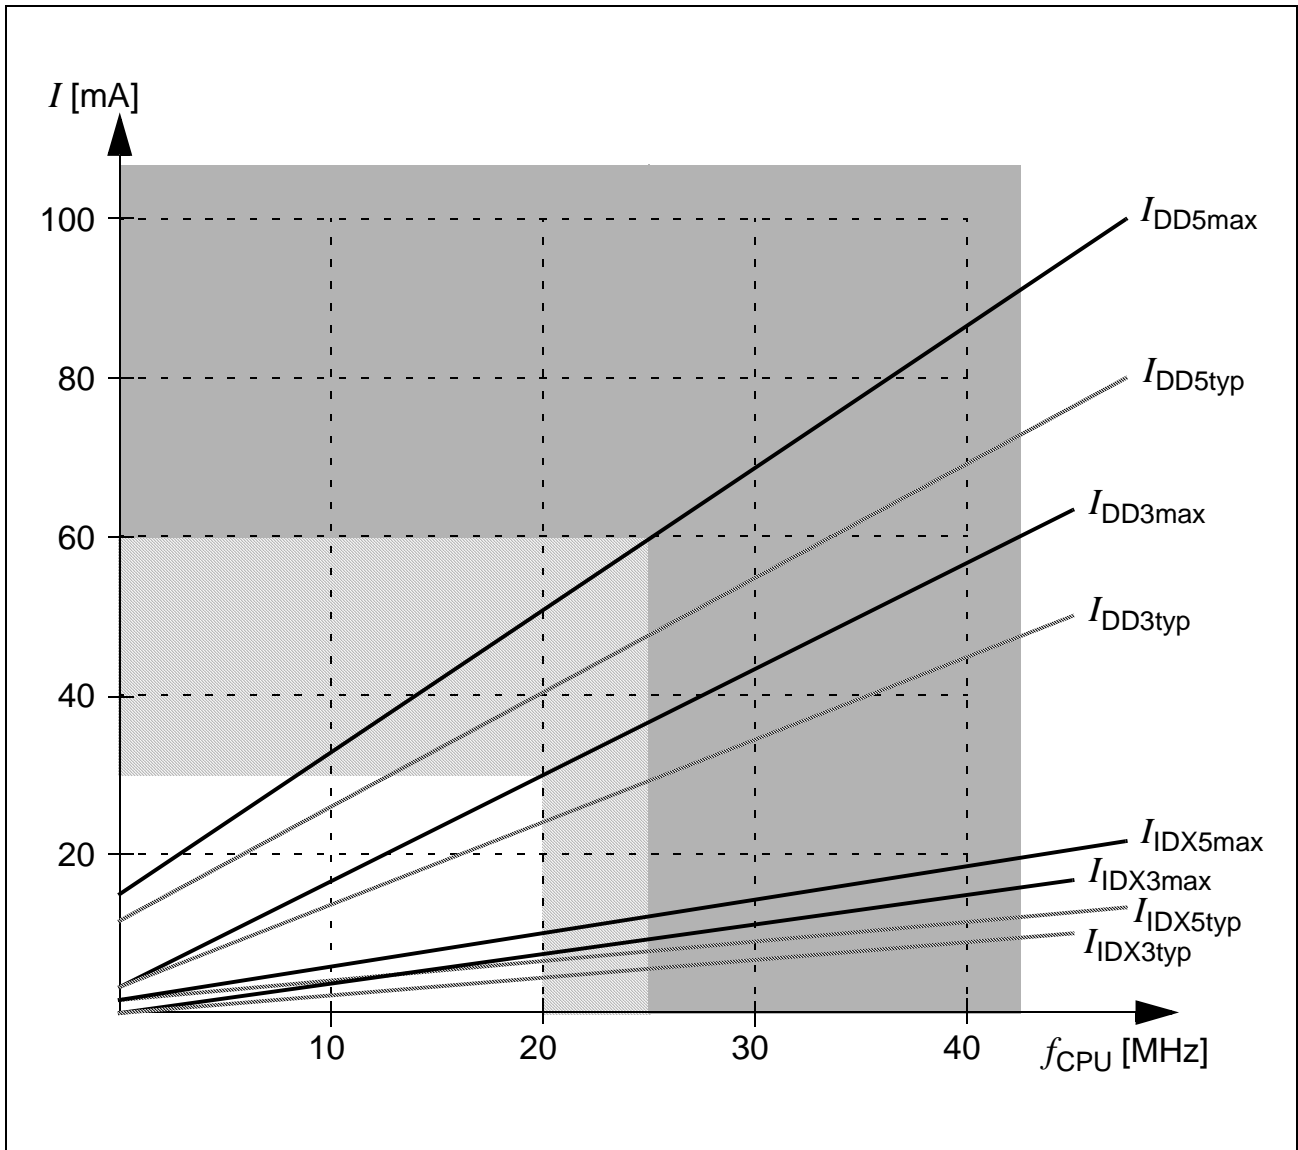

Figure 8 Supply/Idle Current as a Function of Operating Frequency
- 1) The supply current is a function of the operating frequency. This dependency is illustrated in Figure 8. These parameters are tested at V_{DDmax} and maximum CPU clock with all outputs disconnected and all inputs at V_{IL} or V_{IH} .